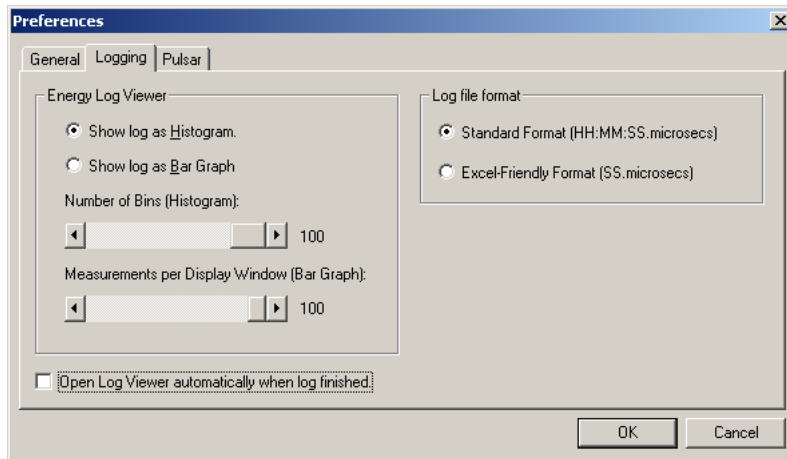

Figure 10-9 Preferences Dialog Box, Logging Tab
1. From the **Preferences** dialog box, with the **Log Viewer** tab selected (see *Figure 10-9*), select **Show log as Bar Graph** in the Energy Log Viewer area.